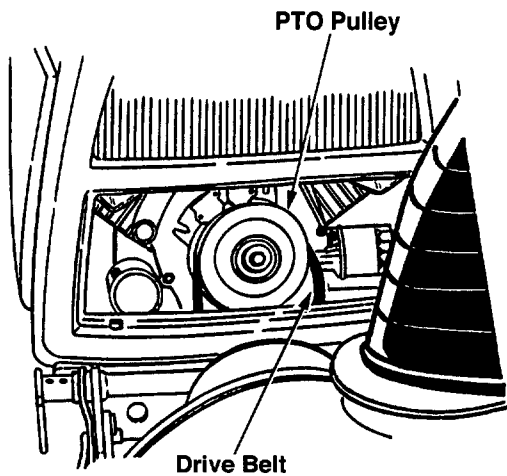

Figure 16
- c. Roll the drive belt onto the PTO pulley on the front of the tractor engine. Refer to Figure 16.